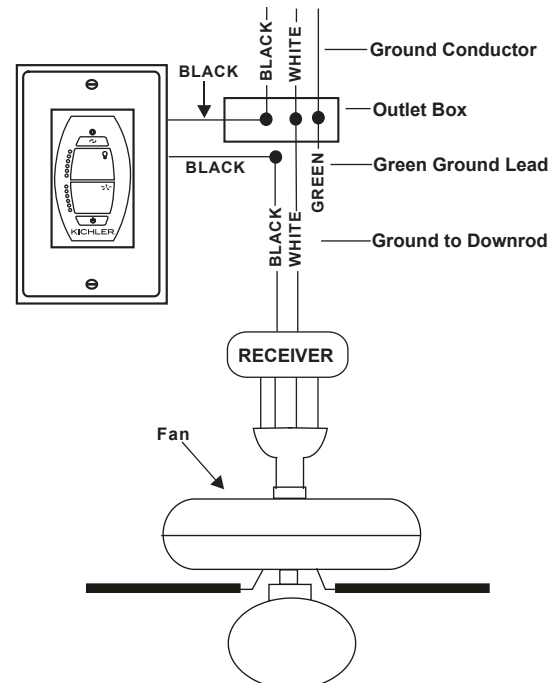

Fig. 3
2. Make each of the wire connections illustrated in Figure 3. Secure each with the wire nuts provided.